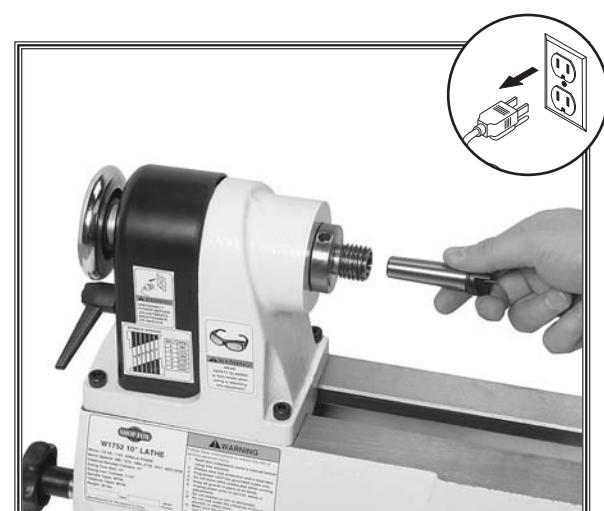

Figure 10. Inserting spur center into spindle.
2. Insert the tapered end of the center into the spindle, and push it in quickly and firmly (see Figure 10).